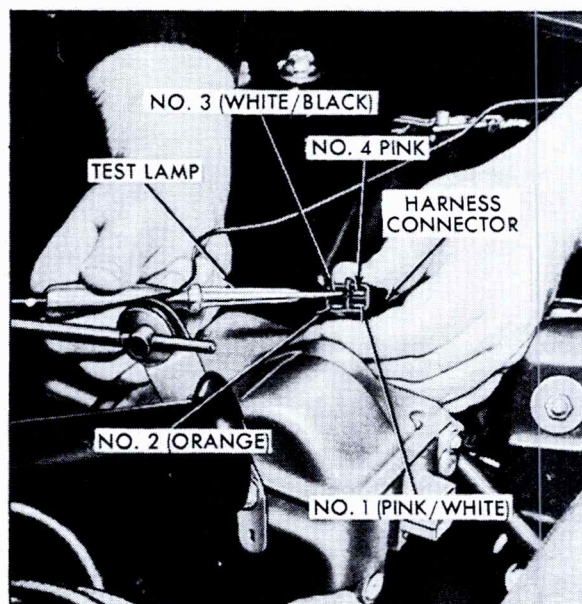

Fig. 15-10 Preliminary Electrical Checks
5. Ground one test lamp lead and touch other lead to terminal No. 1 (pink with white stripe wire), Fig. 15-10. Lamp should light. If it does not light, wiring in selector control assembly, or assembly itself, is defective.
6. Ground one test lamp lead and touch other lead to terminal No. 2 (orange wire), Fig. 15-10, and push switch lever to ON (center) position. If lamp fails to light, check for defective wiring in selector control assembly.
7. Ground one test lamp lead and touch other lead to terminal No. 3 (white with black stripe wire), Fig. 15-10. Have a helper push switch lever to AUTO position and allow switch to come back to ON position. Test lamp and "AUTO" light should light when switch lever reaches AUTO position and then go out when switch lever returns to ON position. If test lamp fails to operate as described above, check for defective wiring in selector control assembly. If "AUTO" light does not light, check bulb, feed to bulb, and that a good contact is made at the ON terminal when switch lever is returning from AUTO to the ON (center) position.
8. Ground one test lamp lead and touch other lead to terminal No. 4 (pink wire), Fig. 15-10. Have a helper push switch lever to AUTO position and manually hold switch lever in AUTO position. Depress brake pedal. Test lamp should go out and then come on when brake pedal is released. If lamp fails to operate as described above, check for improperly adjusted Cruise Control switch or defective wiring in selector control assembly. Allow switch lever to return to ON position.